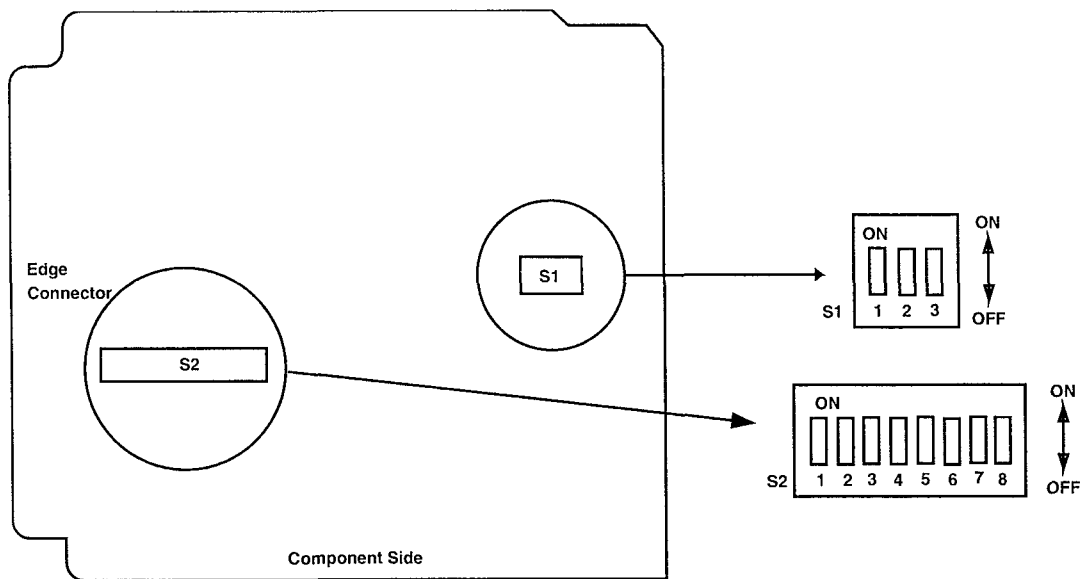

Figure 1. SYSCTL Option Settings
3. Set **SYSCTL** switch **S1** sections **S1-1**, **S1-2**, and **S1-3** to **OFF**, **OFF**, **OFF**, respectively, to set the product (shelf) type. See Figure 1.